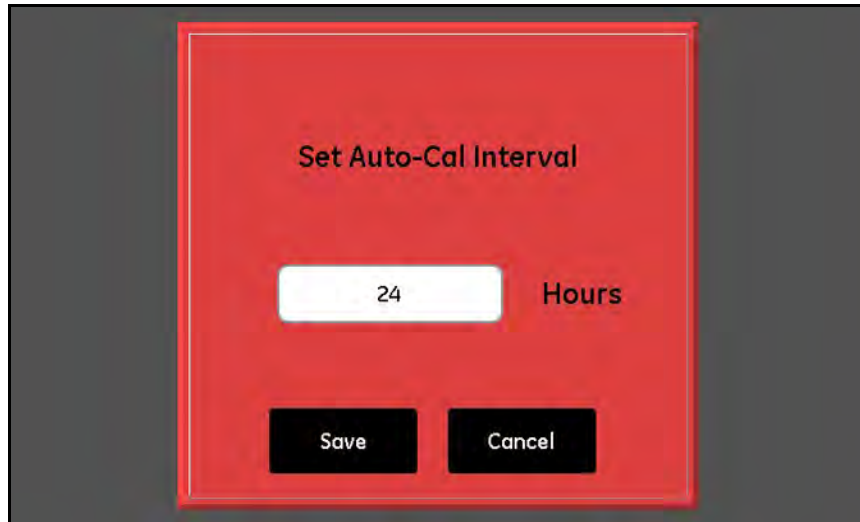

Figure 57: Set Auto-Cal Interval Screen
1. From the *Probe Configuration* screen, tap **Auto-Cal Setup** button to access the *Set Auto-Cal Interval* screen for the desired probe (see *Figure 57* below).